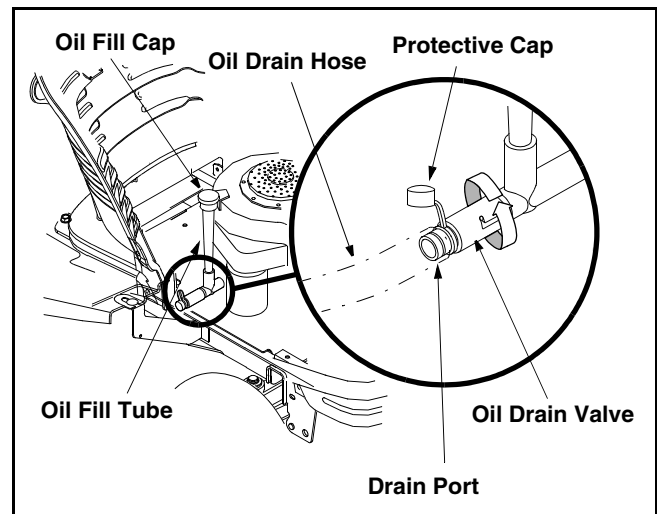

Figure 22
- Unscrew oil fill cap and remove dipstick from the oil fill tube. See Figure 22.
- Pop open the protective cap on the end of the oil drain valve to expose the drain port. See Figure 22.
- Push the oil drain valve in slightly, then rotate counterclockwise and pull outward to begin draining oil. See Figure 22.